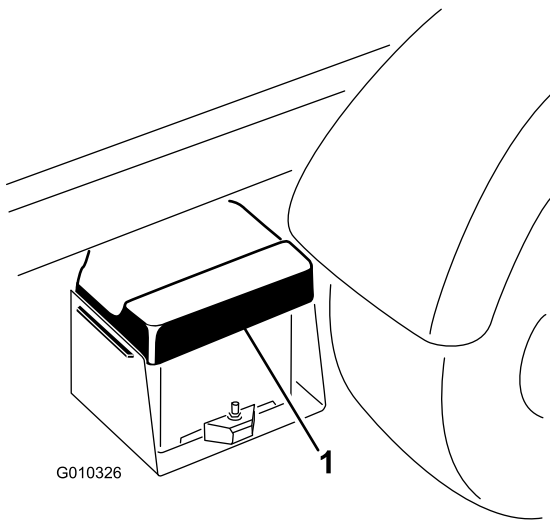

Figure 3
- A. Squeeze the battery cover to release the tabs from battery base (Figure 3).
- B. Remove the battery cover from the battery base (Figure 3).